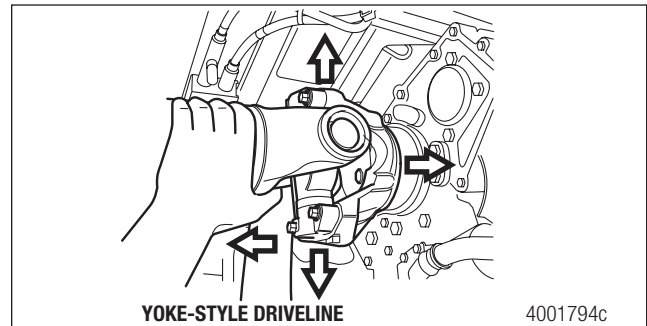
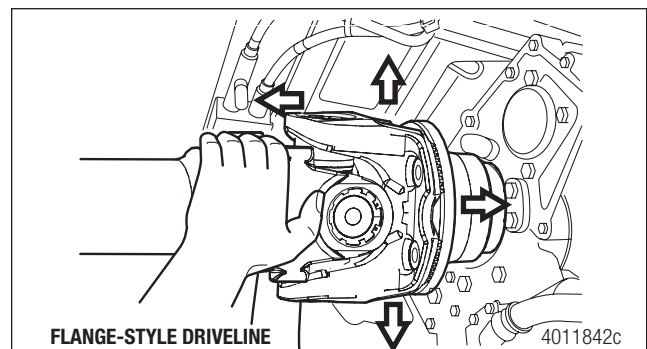

Figure 13.2
Figure 13.3
2. Try to move the yoke or flange UP-AND-DOWN and SIDE-TO-SIDE by applying at least 50 pounds (22.7 kg) of force to the driveline near the universal joints. Figure 13.2 and Figure 13.3.